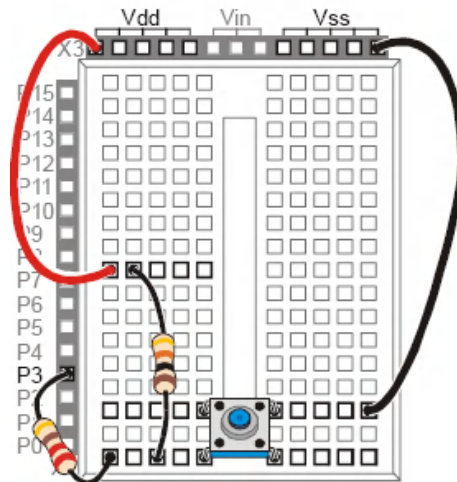

Fig 2.48: Modified pushbutton circuit connection
- Modify the circuit as shown in figures 2.48 and 2.49,